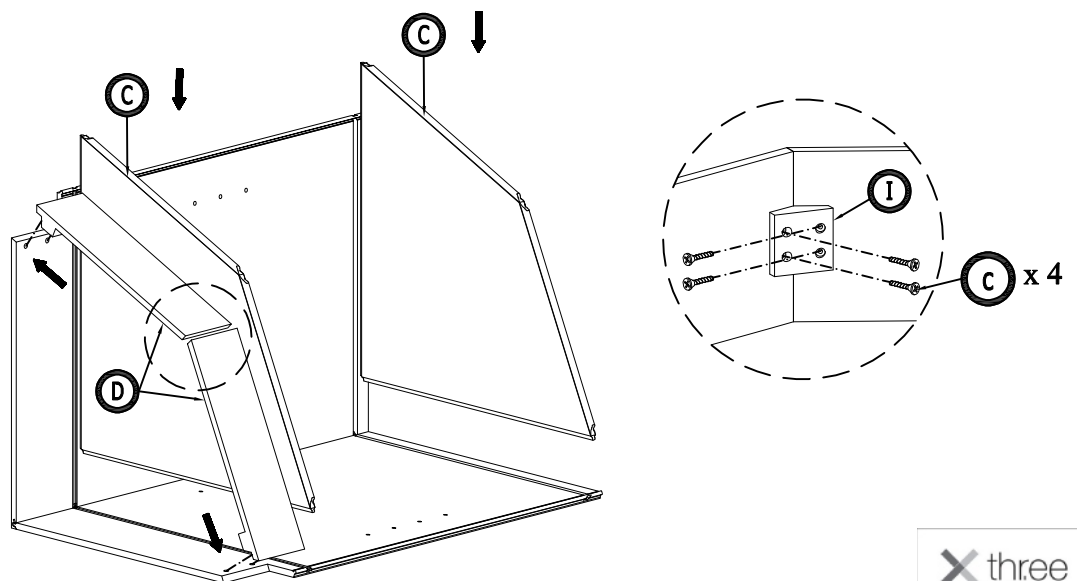

Figure 3
3. Installing the top and bottom pane, toe kick: Insert the top and bottom panel (C), Toe kick (D) into grooves of left panel (A) & right side panel (B) and toe kick (D). Press down until they click into place. (Figure 3)